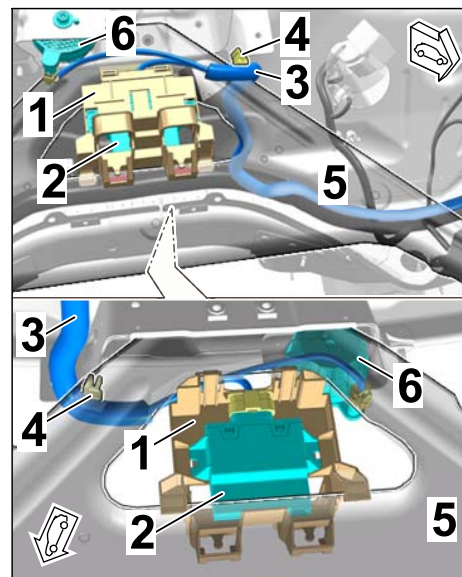

Figure 14
- 2.1.5 Install the holder with the engine noise control unit to the strut brace (plenum panel area) (⇒ *Figure 14*).